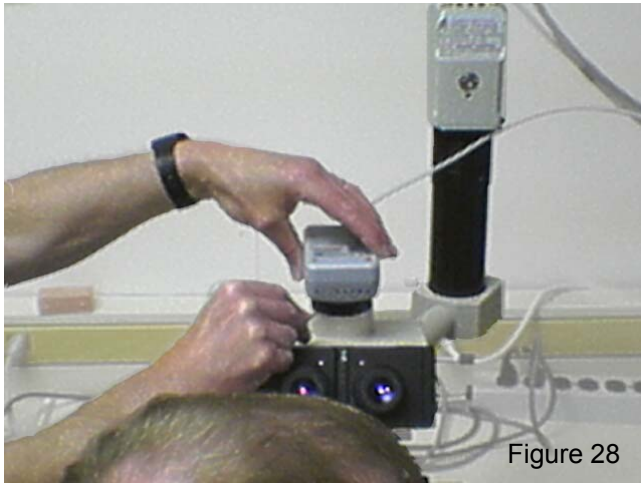

Figure 28
- After installing, the image was incorrectly placed; the camera C-mount had to be repositioned to align the camera image with the slide. (Figure 28 and 29) Is this indexing important if a filter is added?